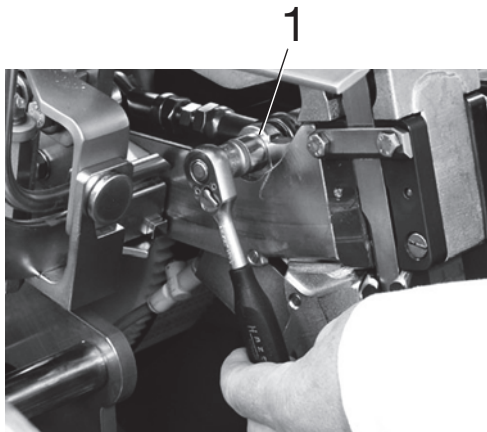

Fig. 7-37 1 Joint rod head fixing screw
- Push the tool lever backwards and tighten the fixing screw (1, Fig. 7-37) on joint rod head.